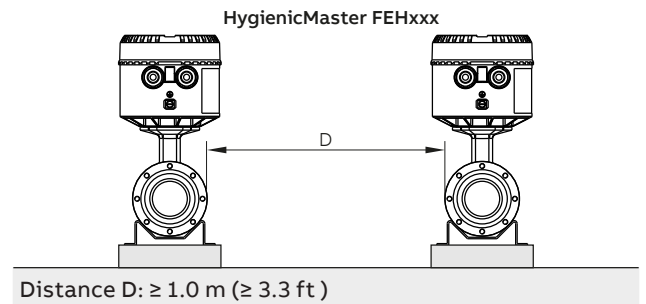

Fig. 2: Minimum distance
- In order to prevent the devices from interfering with each other, a minimum distance as shown in Fig. 2 must be maintained between the devices.